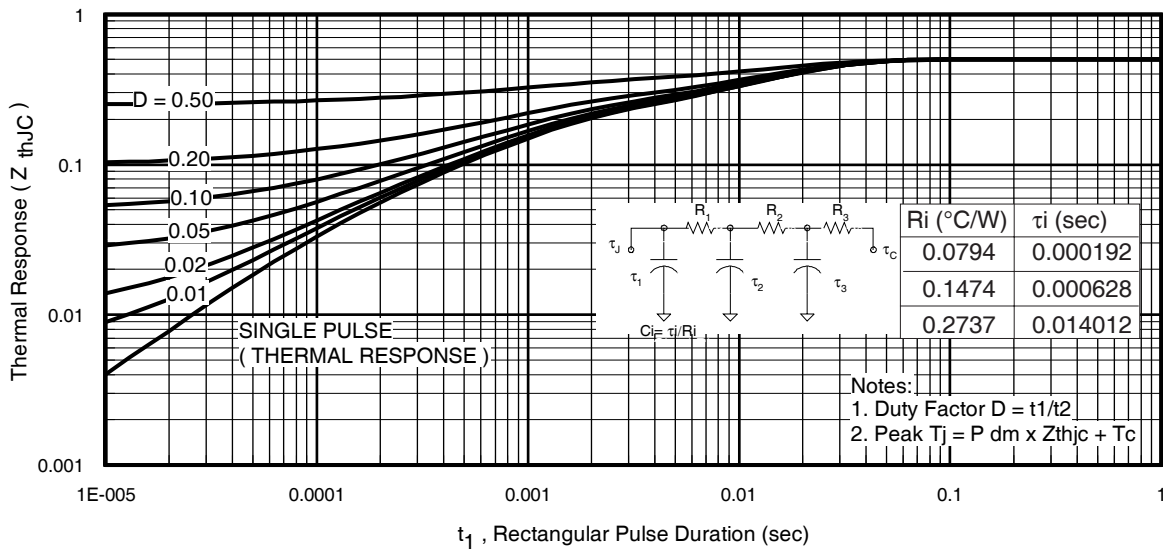

Fig 11. Maximum Effective Transient Thermal Impedance, Junction-to-Case
- ① Repetitive rating; pulse width limited by max. junction temperature. (See fig. 11).
- ② Limited by T_{Jmax} , starting $T_J = 25^\circ\text{C}$, $L = 0.043\text{mH}, R_G = 25\Omega, I_{AS} = 140A, V_{GS} = 10V$. Part not recommended for use above this value.
- ③ Pulse width $\leq 1.0\text{ms}$; duty cycle $\leq 2\%$.
- ④ $C_{oss\ eff.}$ is a fixed capacitance that gives the same charging time as C_{oss} while V_{DS} is rising from 0 to 80% V_{DSS} .
$Z_{thJC}(D, t_{av})$ = Transient thermal resistance, see figure 11)